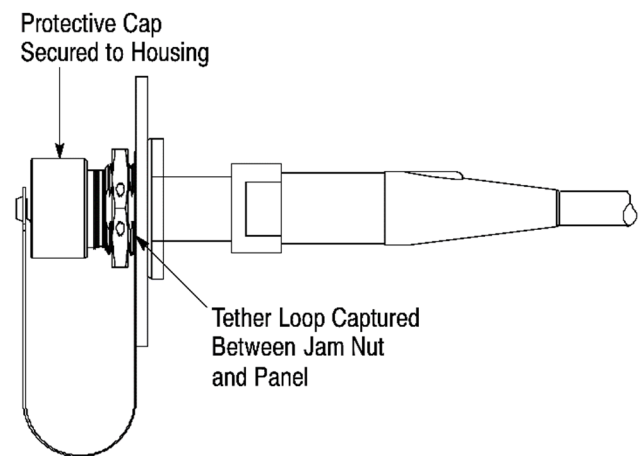

Figure 15
2. Make sure that the flange O-ring is installed in the groove of the housing flange (refer to Figure 1). Then, install the connector through the back of the panel so that the O-ring on the shoulder of the housing is flat against the panel. See Figure 15, Detail A.
3. Slide the loop of the tether of the protective cover over the threads at the front of the flange of the housing. See Figure 15, Detail A.
4. Thread the jam nut onto the housing. See Figure 15, Detail A. Using the 27-mm jam-nut socket and torque wrench, tighten the jam nut to a torque between 4.5 and 5.2 N·m (40 to 46 in·lb.). The O-ring will now be compressed.
5. Thread the protective cap onto the housing. Hand-tighten the protective cap. See Figure 15, Detail B.